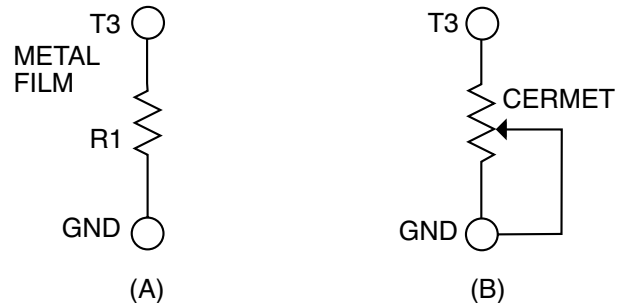

Figure 2
Discrete Resistive Programming: The method shown in Fig. 2(A) provides continuous control of the output amplitude. For both methods, Equation 1 defines the value of R1 for the specific set of conditions.
**Continuous Resistive Programming:** To determine the value of potentiometer R1 in Fig. 2(B), simply insert the appropriate values into Equation 1.